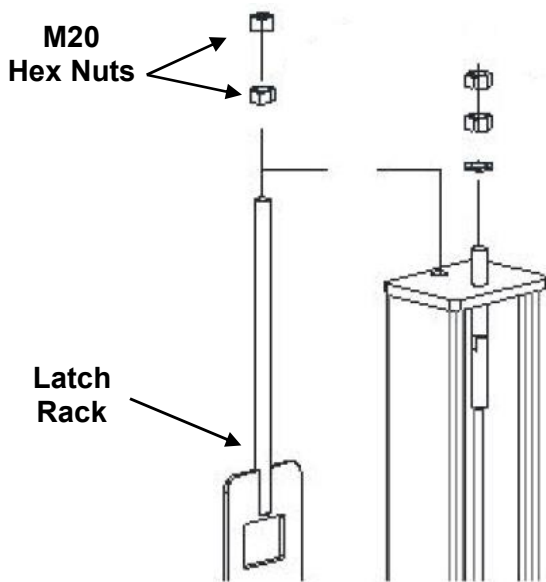

Fig. 10
- 2) Locate the Latch Racks at the back of each Post and remove the **M8 x 12mm** screw & washer securing the Latch Rack to the lower section of posts, shown in **Figs 10 & 11**. Set M8 Screws & Washer aside for reassembly in the following steps.
- 3) Position Hex Nuts to the top of the Latch Racks threaded studs, shown in **Fig 10**. Ensure the Latch Racks threaded stud is inserted through the outer top plate hole for each Post.